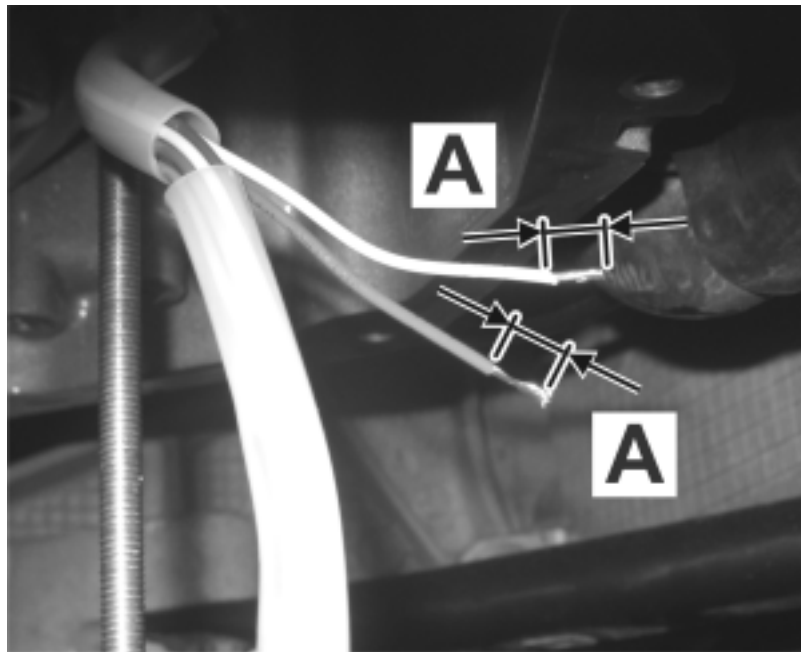

Figure 3
- 8 Strip white and orange line ⇒ Length 5 mm (⇒ Figure 3-A-).